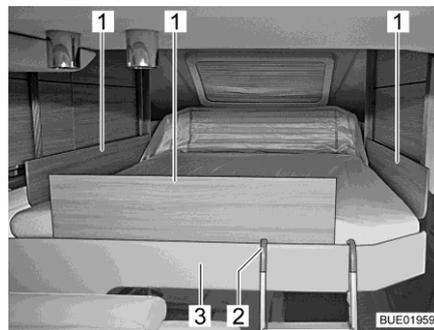

Fig. 135 Pull-down bed with safety plates
- Insert the safety plates (Fig. 135,1) between the mattress and the bed surround (Fig. 135,3).
- Hook both bows of the access ladder (Fig. 135,2) into the bed surround (Fig. 135,3).
- Release the access ladder (Fig. 135,2) from the bed surround (Fig. 135,3).
If it is no longer possible to move the pull-down bed with the arrow keys (Fig. 135,2 and 8), first of all check the fuse Reserve 3 on the transformer/rectifier (see section 9.11.1). If the fuse is okay and it is still not possible to move the pull-down bed, the pull-down bed can be operated manually.